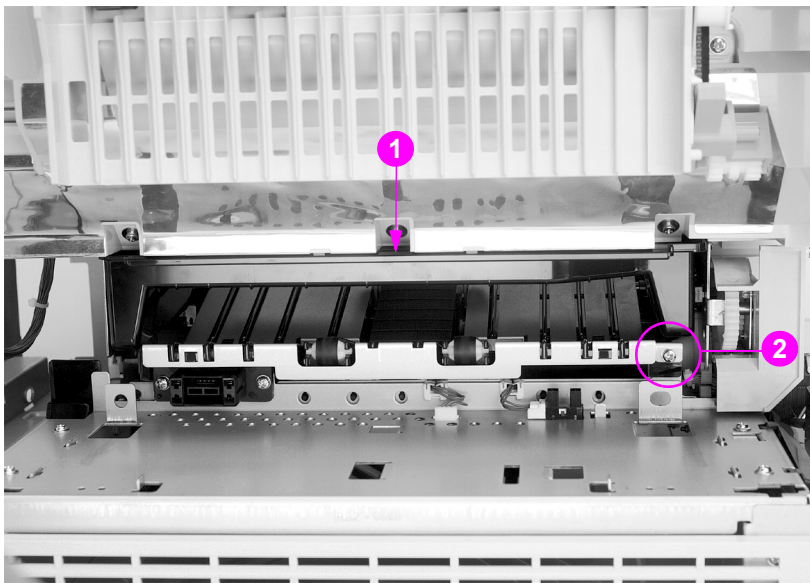

Figure 6-69 Paper transport assembly removal and replacement
- 2 Remove the toner catch tray by pushing down on the clip in the middle and sliding it straight out as shown in callout 1, Figure 6-69.